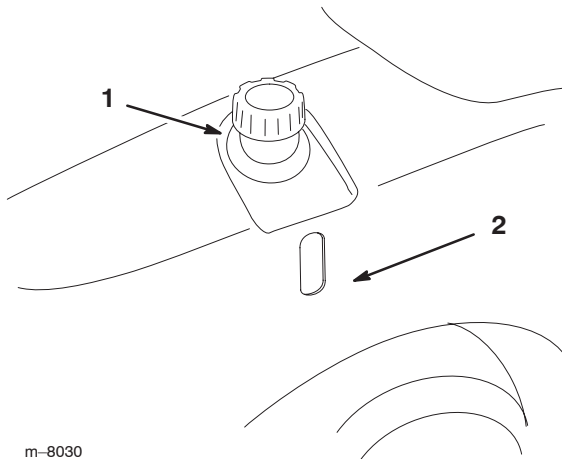

Figure 2
2. Clean around the fuel tank cap and remove the cap (Fig. 2).
The fuel window below the gas tank cap can be used to verify the presence of gasoline without removing the cap (Fig. 2).